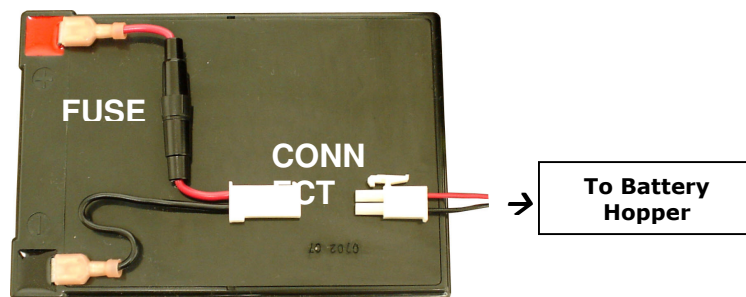

Figure 1 – Battery (top view)
5. Before permanent installation of your AC401 changer, perform a functional test to further verify that there is no hidden shipping damage. To ready the changer for use, coins must first be added to the hopper. You will need at least enough coins to cover the two metal plates at the bottom of the Coin Bin, or approximately 100-150 coins. The Battery Hopper must also be powered-up. Connect the white two-position battery connector, which is secured to the left side of the cabinet, to the mating white connector attached to the top of the battery (refer to Figure 1 below). When this connection is made, the hopper's red LED should light up for approximately two seconds. When the LED turns off, the changer is ready for testing.
1. Before removing the hopper from the cabinet, turn off the power by disconnecting the white two-position connector located on top of the battery (refer to Figure 1).